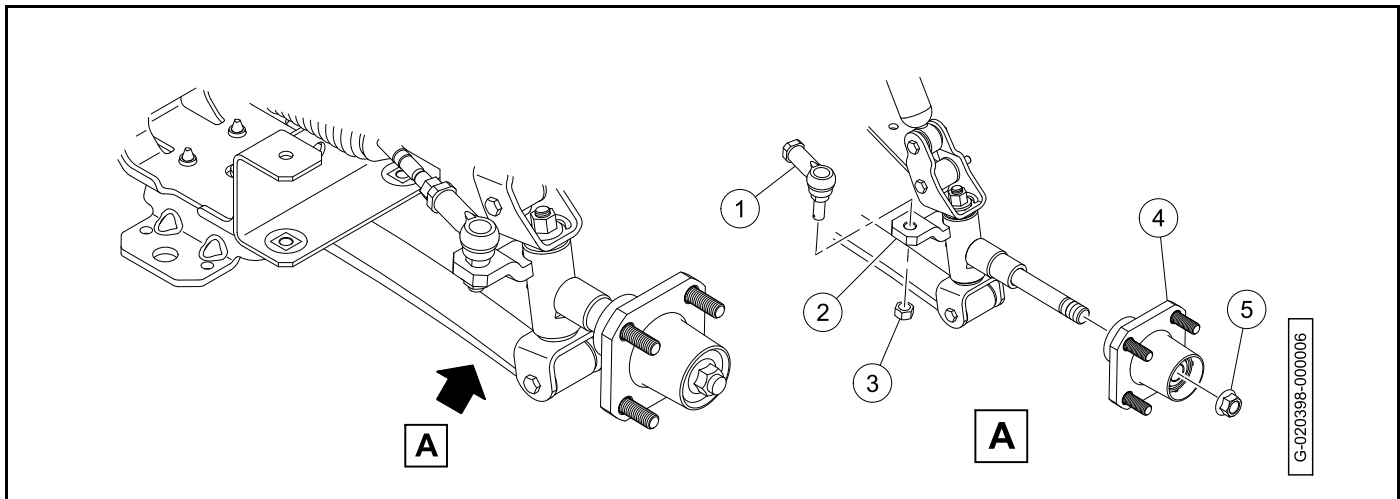

Figure 7-29
3. Install the bolt (2). Tighten the bolt to 30 lb·ft (41 N·m).
4. Install the wave washer (3) on the kingpin.
5. Install the spindle (4) on the kingpin.
6. Put the upper clevis (5) over the kingpin threads and install nuts (6). Tighten the nuts to 70 lb·ft (95 N·m).
7. Install the tie rod end (1) to the spindle tab (2) (**Figure 7-29, Page 7-22**).